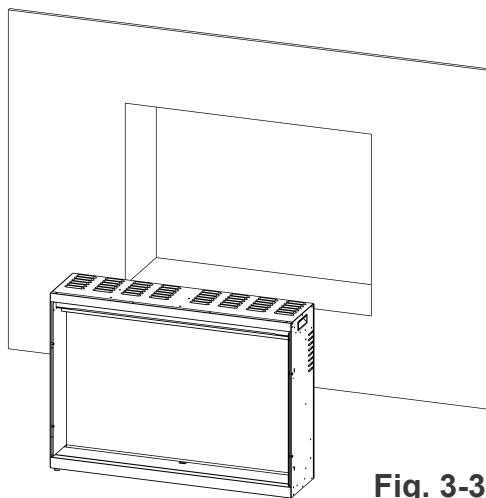
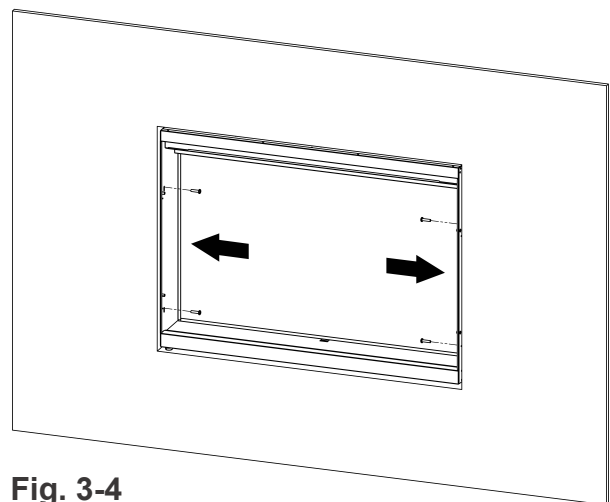

Fig. 3-3
Fig. 3-4
- D. Insert the fireplace into the rough-in frame and then secure it by installing **4** wood screws **(A)** through the mounting holes (Fig. 3-3, Fig 3-4).